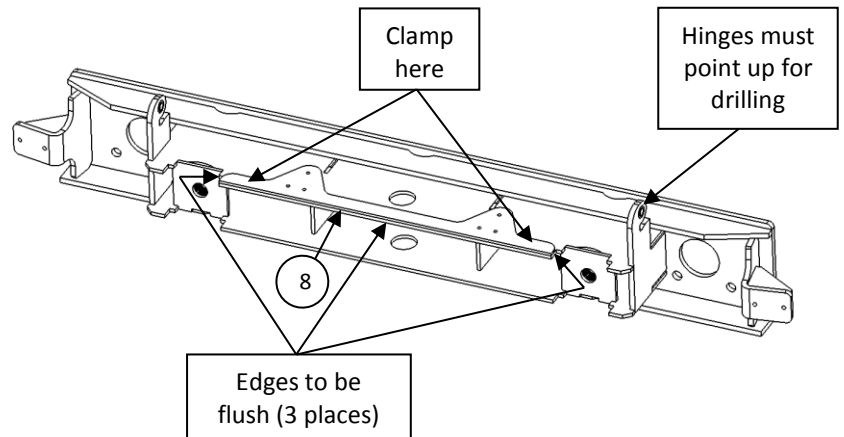

Figure 2 – Drill template
2. Place bracket upside down on work bench and clamp drill template (Item 8). Ensure the three edges are flush as per figure 2.